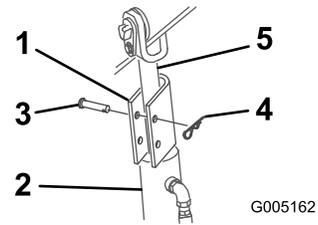

Figure 20
4. Position a loader arm cylinder lock over each lift cylinder rod (Figure 20).
5. Secure each loader arm cylinder lock with a clevis pin and cotter pin (Figure 20).